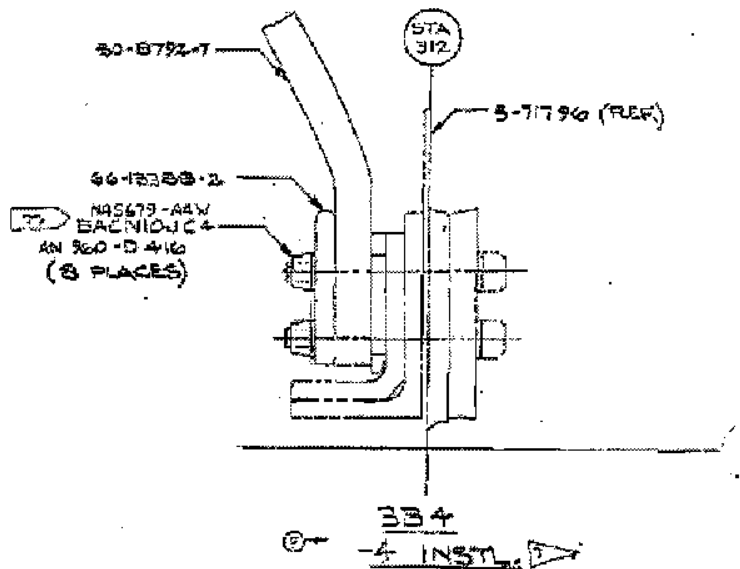

Fig. 5: Snubber Installation
- 4.2 Install snubber (see fig. 5)